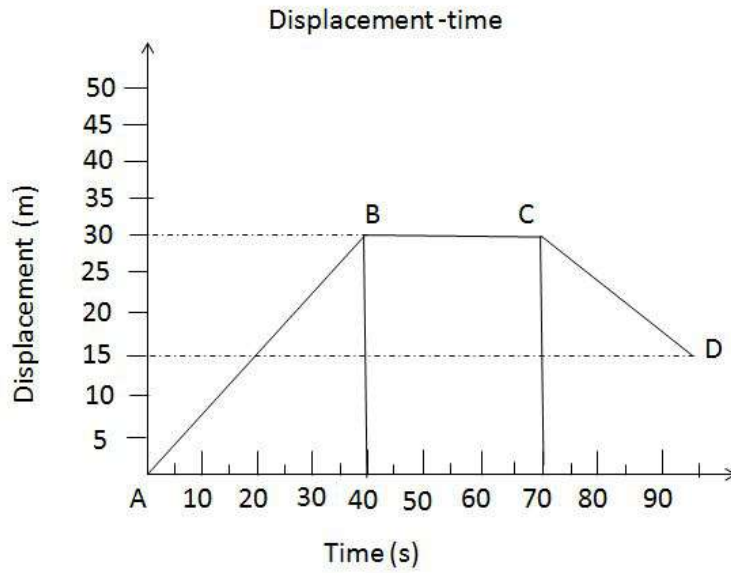

FIGURE 1
1.2 FIGURE 1, DIAGRAM SHEET (attached) shows a car been observed from A to B where it stops. After a certain period of time, it reverses from C to D.